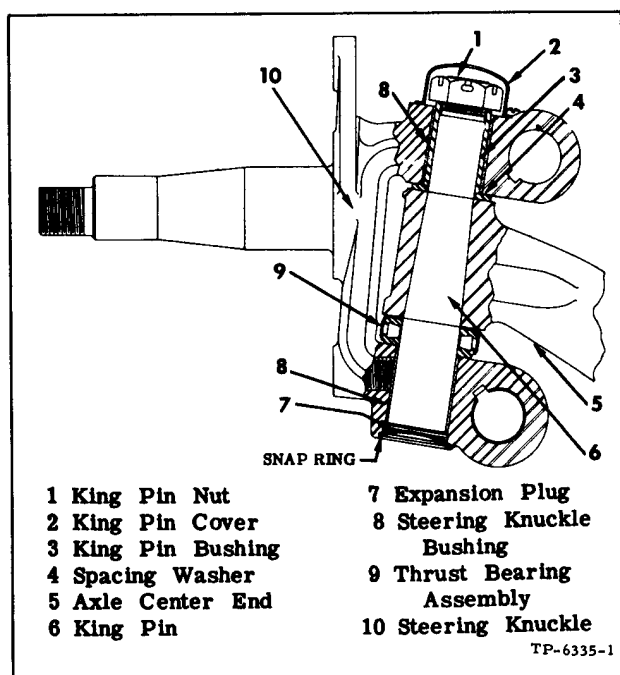

Figure 1—Steering Knuckle Assembly
Front axle assembly is Reverse Elliott type. Axles are equipped with steering knuckles constructed as shown in figure 1.
Steering knuckles (fig. 1) are supported on solid king pins which are tapered at center section to fit snugly in tapered holes in axle outer ends. Nut installed at threaded upper end of each king pin locks king pin bushing (3, fig. 1) against washer (4, fig. 1) and secures king pin in axle. King pin nuts are secured by cotter pins.
ing knuckles through tapered roller thrust bearing assemblies (9, fig. 1). Covers and plugs (2 and 7 fig. 1) exclude dust and moisture from knuckle bushings and serve as lubricant seals. Steering knuckle bushings can be replaced when necessary. Stop screws installed at each end of axle center limit turning angle of front wheels.
6. Remove cover (2, fig. 1) from top of knuckle to expose king pin nut. Remove snap ring from knuckle lower yoke and remove expansion plug.